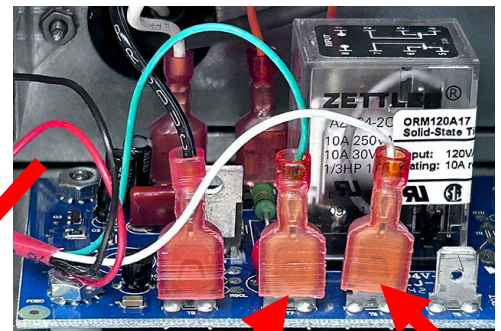

Figure 51
- 54. Connect the **GREEN** wire to T7 and the **WHITE** wire to T6, from the VIB harness labeled **RIGHT**, to the OIB Time Delay Relay Board connectors shown (see Figure 51).